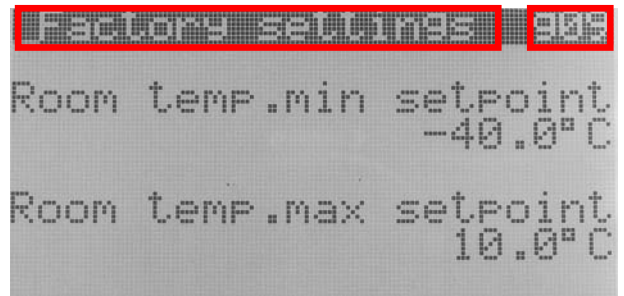

Fig. 5.4
1	Menu branch accessed by the user, where the address of the screen (relating to the menu map) may be displayed in the top right corner (see Fig. 5.4)
**Note:** Fig. 5.4 shows an example of the reference to the Blast Chiller screen map: "ba01" in fact indicates that inside the menu, after having chosen branch "b" and sub-branch "a", the user has accessed the screen for configuring the serial port.